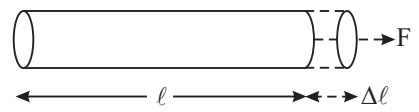

Fig. 8.6: Linear strain
- (i) **Linear Strain :** If on application of a longitudinal deforming force, the length  $\ell$  of a body changes by  $\Delta\ell$  (Fig. 8.6), then